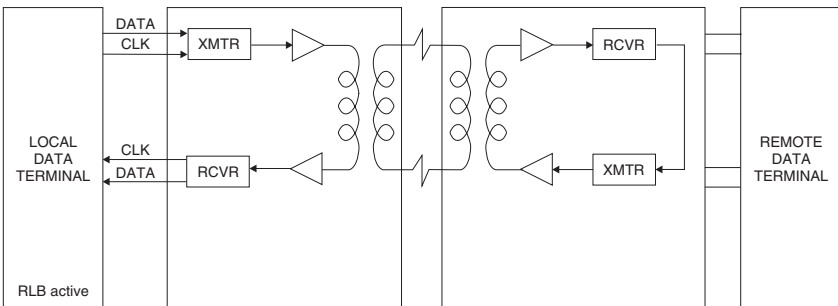

Figure 4-2. Remote digital loopback.
1. Push the local A/S2W SHM's REM (Remote Digital Loopback) pushbutton or (if the unit's RLB jumper is set to EN) raise the RL signal from the DTE to the unit. The TEST LED should light on both units as the local unit sends a remote-loopback command to the remote unit and the remote unit internally connects its receiver input to its transmitter output (see Figure 4-2 below).